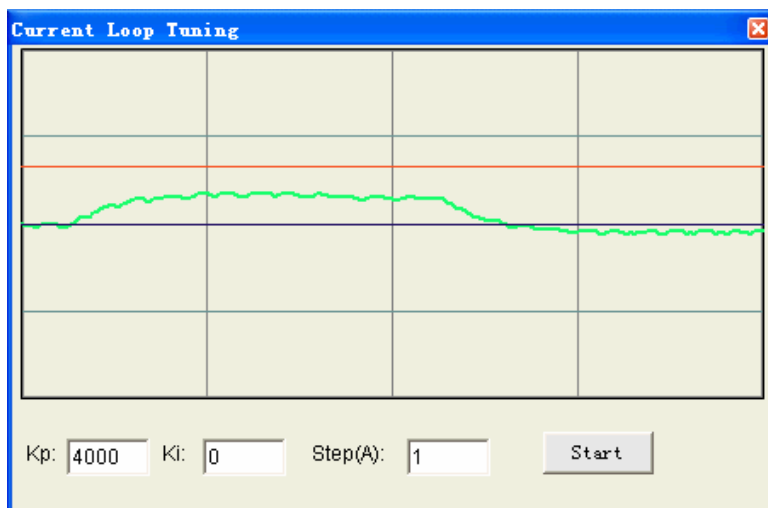

Figure 3-2: Current loop tuning with $K_p=4000$, $K_i=0$
Step 2: Click the Start button and the plot window will show two curves. The red one is target current and the green one is actual measured current. There is large gap between them in the scope. It indicates that a large K_p need to be introduced. See figure 3-2.